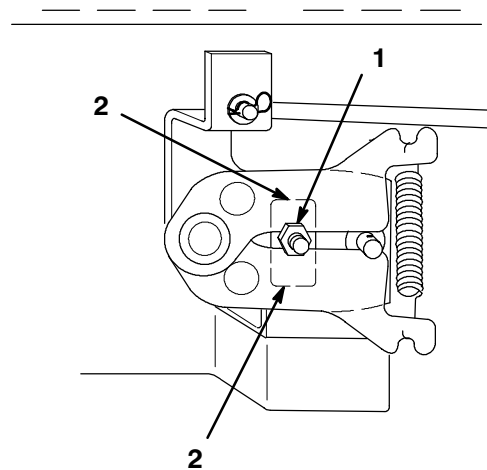

Figure 4
3. Loosen locknut securing adjustment (Fig. 4).
4. Move adjustment stud up or down until creep is minimized (Fig. 4). There may still be some wheel rotation with wheels off the ground.
5. Tighten the locknut (Fig. 4). Move the traction control pedal forward and reverse and allow it to center. Verify that there is no creep with the wheels on the ground.
After adjusting the hydro neutral position, it is necessary to check the traction control pedal. Shut the engine off. Press the control pedal full forward and full reverse. The Transaxle linkage must contact the stop(s) before the control pedal hits the footrest pad (Fig. 4). If contact is made with the foot pad, before hitting stop(s) on transaxle, in either forward or reverse directions, adjustment is required.